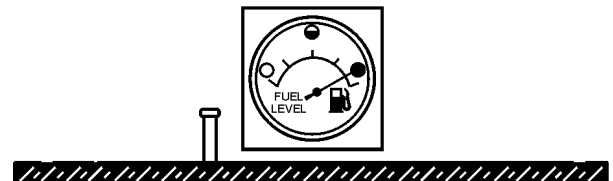

Figure 35. Full Fuel Tank
3. **NEVER** overfill fuel tank – It is important to read the fuel gauge when filling trailer fuel tank. **DO NOT** wait for fuel to rise in filler neck (Figure 35).